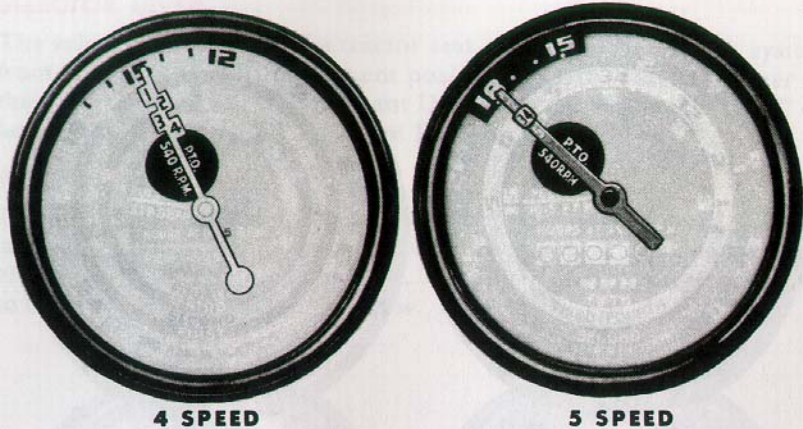

Figure 9
P.T.O. Speed: The American Society of Agricultural Engineers (A.S.A.E.) standard for power take-off speed is 540 revolutions per minute as shown in Figure 9. Most power take-off implements will operate at maximum efficiency when the Proof-Meter needle is held at this speed. For further information on the Power Take-Off, refer to Page 20 of this manual.